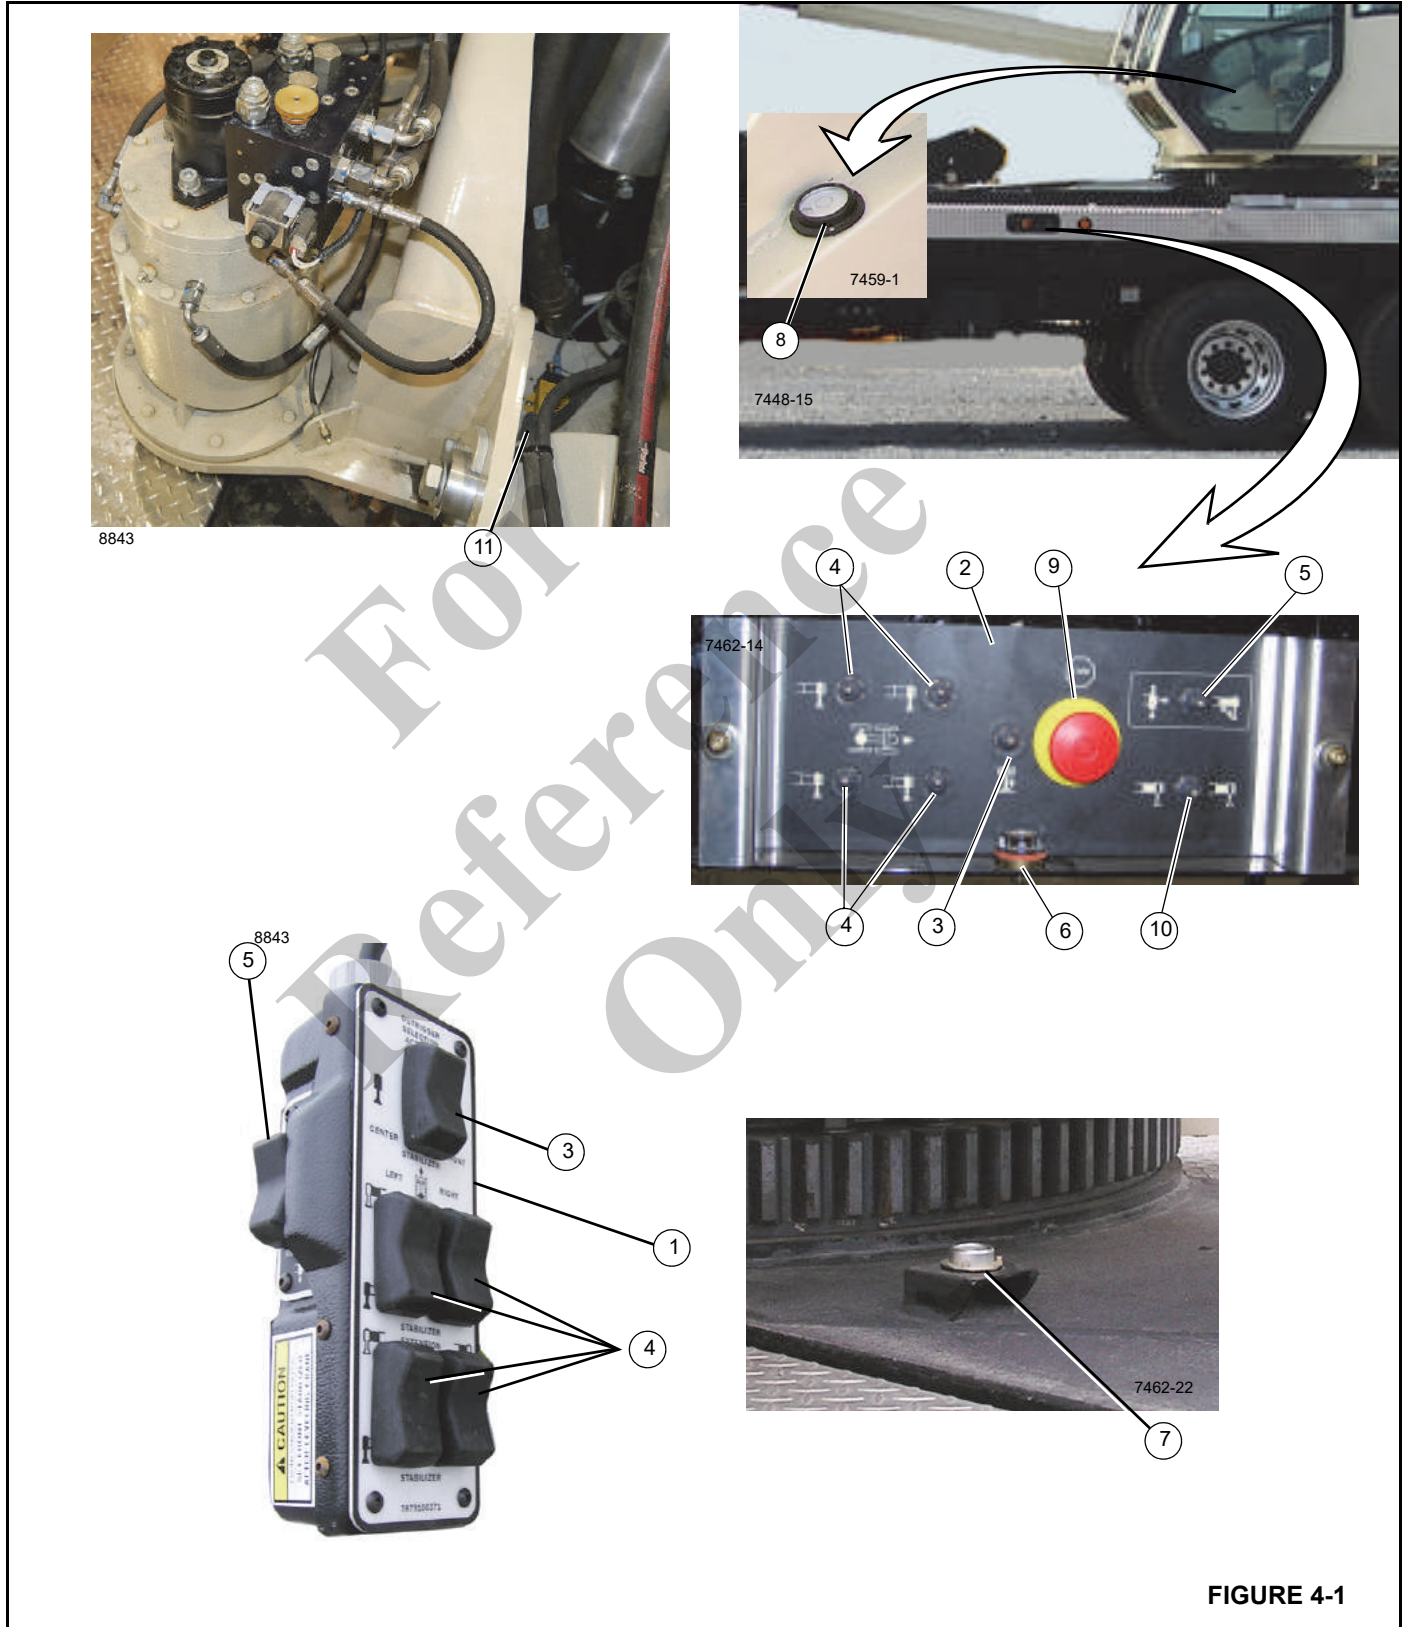
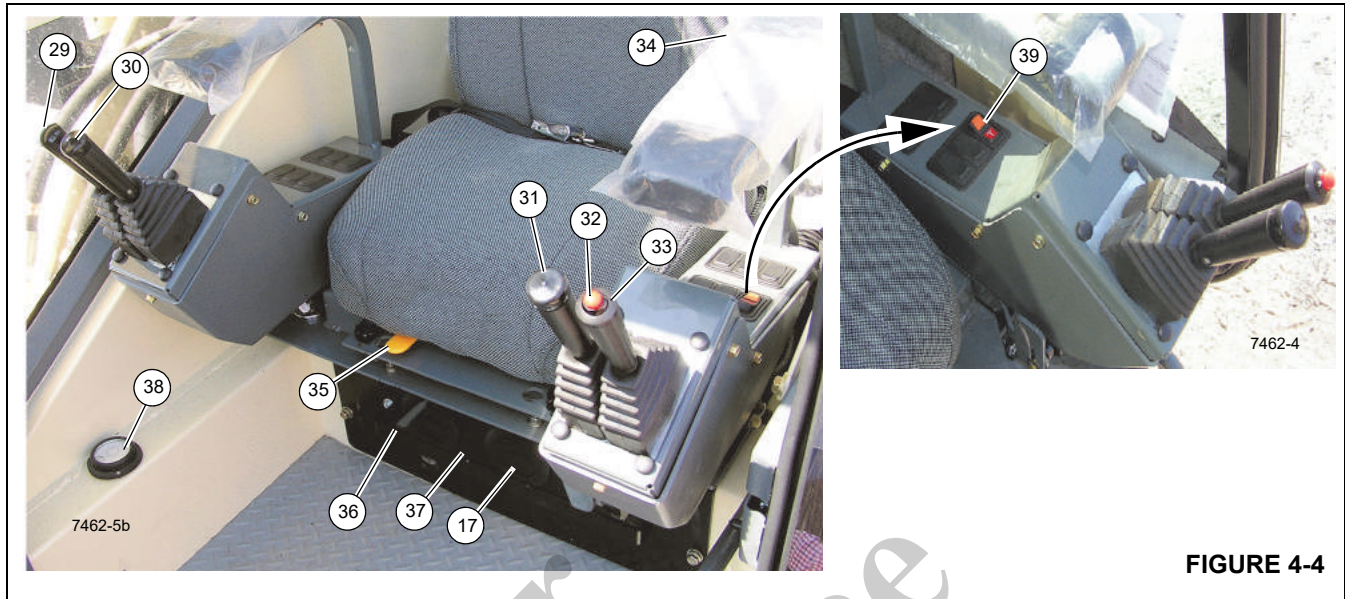
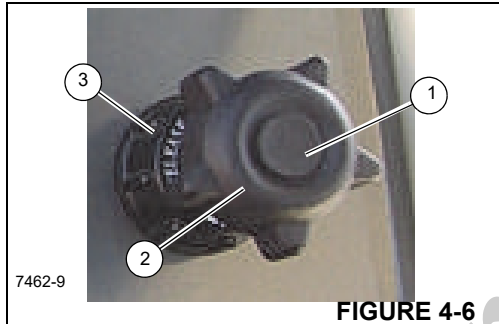

FIGURE 4-1
FIGURE 4-4
FIGURE 4-6
Outrigger Controls are used to set outriggers. There are three ground level control stations for operation of outriggers. One is a cab handheld outrigger control (1, Figure 4-1) located in the ground controls (operator control station cab) and two ground station outrigger controls (2) located on either side of equipment at ground level. Each
Outrigger control panels (2) are located on both lower sides of equipment (Figure 4-1) and contain outrigger controls.
Extend/retract switch (5, Figure 4-1) is used in conjunction with the outrigger selector switches to control outrigger functions.
Outrigger selector switches (4, Figure 4-1) are used to select outrigger component. To extend or retract an outrigger component, first select component with outrigger selector switch, then select extend or retract with extend/retract switch.
Ground station outrigger beam selector switch (10, Figure 4-1) is used to operate front or rear outrigger beam on same side of equipment ground control is located.
There is an emergency stop Switch (9, Figure 4-1) on outrigger control panels on each side of carrier. Pressing either switch shuts down engine.
Single Front Outrigger switch (3, Figure 4-1) is used to lower and raise single front outrigger. To operate single front outrigger, press single front outrigger switch and then press extend/retract switch.
Primary level indicator (7, Figure 4-1) is located forward of turret bearing. Secondary level indicators are located in outrigger control panels (6, Figure 4-1) and in ground control cab (38, Figure 4-4).
There is an electronic level sensor located on top of turntable bearing plate near lift cylinder trunnion (11, Figure 4-1) which is used to monitor outrigger system levelness of equipment. If equipment is not level within 1%, outrigger motion alarm will sound until corrected and boom functions will be disabled, See "Leveling of Equipment" on page 2-5.
Foot throttle (4, Figure 4-4) is located on ground control cab floor and is used to control engine speed. Depress foot
Hand throttle (11, Figure 4-3) must be positioned as indicated in Figure 4-6 to operate foot throttle properly.
- Increase Engine Speed - Push in and hold center button (1, Figure 4-6); pull out on knob (2) to accelerate engine. Releasing button (1) will lock knob in place and maintain engine speed.
- Decrease Engine Speed - Push in and hold center button (1) push knob (2) in to slow engine speed.
- Incremental Speed Adjustment - Rotate knob (2) clockwise to increase speed and counterclockwise to decrease engine speed.
Hand throttle must be positioned as indicated in Figure 4-6 to operate foot throttle (4, Figure 4-4) properly.
Boom lift control lever (29, Figure 4-4) is located on right armrest and is used to raise and lower boom. Push lever forward to lower boom and pull back to raise boom.
Hoist control lever (30, Figure 4-4) is located on right armrest. Positioning lever forward lets out hoist rope to lower load and pulling lever back will raise load.
When equipped *without* auxiliary hoist telescope boom control lever (31, Figure 4-4) is on left armrest. Push lever forward to extend boom and pull back to retract boom.
If equipped *with* an auxiliary hoist control lever (31, Figure 4-4) is on left armrest. Positioning lever forward lets out hoist rope to lower load and pulling lever back reels the rope in raising load.
Warning horn button (32, Figure 4-4) is located on swing joy stick. Push switch to sound horn to warn personnel of pending movement of equipment.